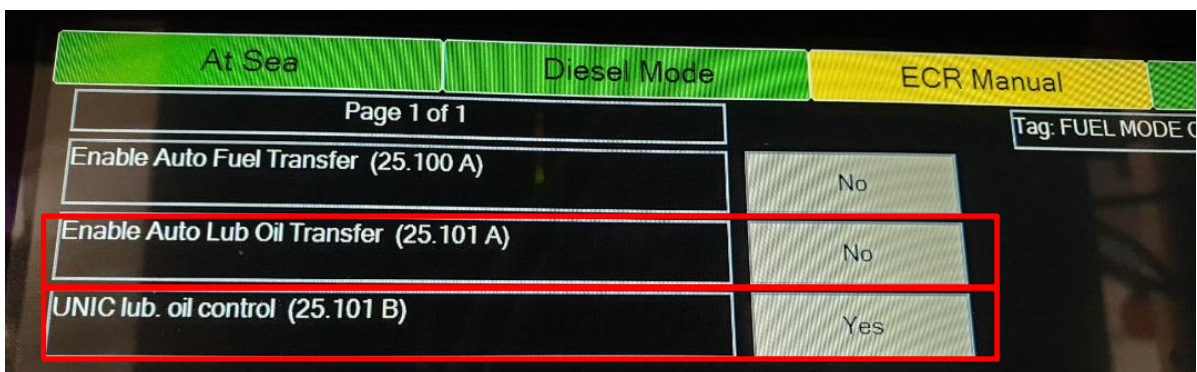

Figure 1: Kongsberg IAS screen (example)
- 1) The Kongsberg menu (chosen as example IAS) as shown in Figure 1 below is required to perform the next steps. From the Home screen, select the following tabs in the given order: *Parameter change* → *Fuel Mode control* → *Lub. Oil Control*. The page will appear as shown below in Figure 1 Figure 1.